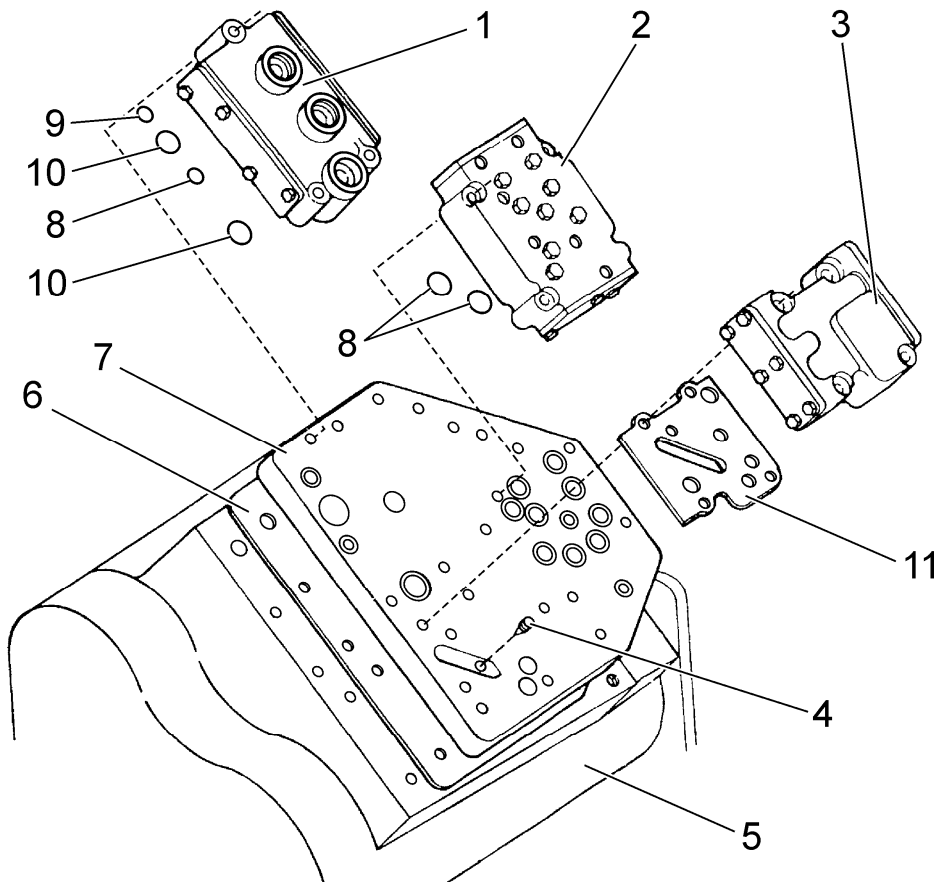

Fig. 7C.1. Transmission and Valves Location
The pressure regulator valve (1, Fig. 7C.1) contains three spools. The main spool limits the pressure at output side of the charge pump to 1790 - 1930 [kPa]. The oil at this pressure is used for clutch pack engagement. Excess oil from the main spool is channeled to the converter spool, then to the lubrication spool.
This valve (2, Fig. 7C.1) consists of one switch spool, one directional selector spools and two range selector spools which are hydraulically controlled. In "forward", oil pressure is exerted between the switch spool and directional selector spool, causing the short switch spool to compress the spring and the long directional selector spool to remain in place. In "reverse", oil pressure is exerted on the end of the long directional selector spool, causing both spools to move against the spring. In "first or second" (transmission gears), oil pressure is applied against one of the range selector spools causing it to compress the spring. In "third", no oil pressure is applied and the range selector spools are held in place by the spring. When the spools are shifted, oil pressure from the rate of rise valve (3) enters the range selector valve and exits through openings not covered by the spool and on to the transmission to engage the clutch packs: one directional and one range clutch pack.
Rate of rise valve (3, Fig. 7C.1) sequences the flow and regulates the pressure of the oil to the directional and range clutch packs during shifting. When a directional or gear range shift occurs, oil from the range selector valve (2) enters the rate of rise valve and is first directed to the directional clutch pack. When this clutch pack is full, the pressure rises and opens the sequence spool to allow the range clutch packs to fill while the pressure to the directional clutch pack remains the same. When the range clutch pack is full, the pressure in all the packs begins to raise evenly. Because the pressure in the directional clutch pack is greater, it fully engage before the range clutch pack, allowing any slippage to occur only in the latter. This delayed engagement time is created by modulating piston and allows a smooth shift without shock.